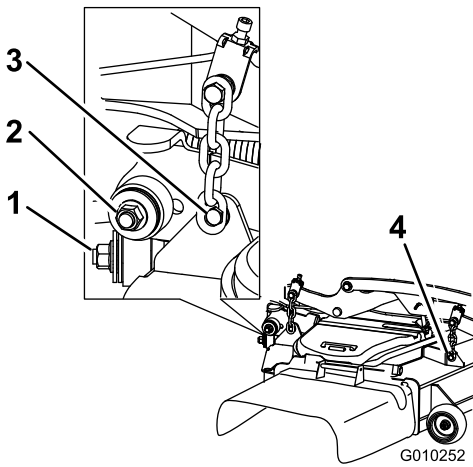

Figure 97
- Remove and retain the hardware on both sides of the deck as shown in Figure 97.